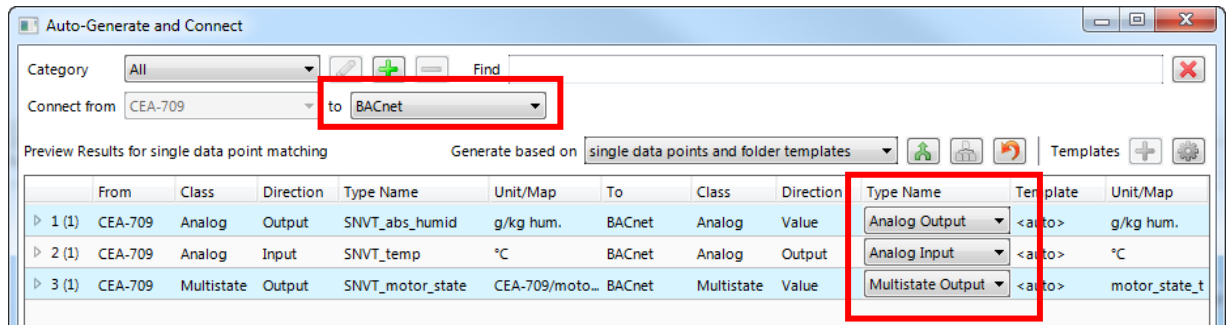

Figure 216: Auto-generate and connect preview.
5. The auto-generate preview dialog opens as shown in Figure 216. Choose the target technology. The preview results show a list for each source type found how it will be created as a target type. The **Type Name** column provides a drop-down to modify the result. This choice is remembered and will be applied the next time again. You may click the **Restore defaults** button  to revert all custom settings.